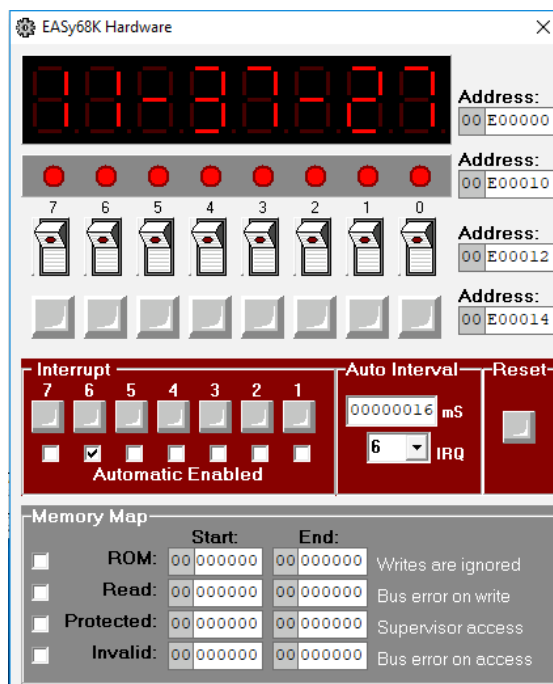

Figure 10: 24-hour clock.
Figure 10 shows the hardware window with the 24-hour clock running. From left-to-right, the bank of eight 7-segment displays shows time in the following format: *HH-MM-SS*. In this case, the clock indicates 11 hours, 37 minutes, and 27 seconds. Within the code that implements the 24-hour clock, three global memory locations are used for the hours (HH), minutes (MM) and seconds (SS). These values are accessible to all parts of the program, including the main function, the interrupt-service routine, and the polling routine used to implement the clock.
2. Write a polling loop to display the current time on the 7-segment interface, as illustrated in Fig. 10. This loop should run continuously. On each iteration it should read the values of the global three variables HH, MM, and SS. It should then convert each of these (binary) integer values into two binary-coded decimal digits (each between 0 and 9) for displaying on the 7-segment display. For example, if the current number of minutes (HH) is 37_{10} , the first digit will be 7_{10} and the second digit 3_{10} . The 7-segment pattern for displaying each digit should be determined, and then written to the appropriate location in the 7-segment interface for displaying the time. The time format should match that in Fig. 10; that is, HH-MM-SS, including the “-” used to separate the hours, minutes, and seconds.